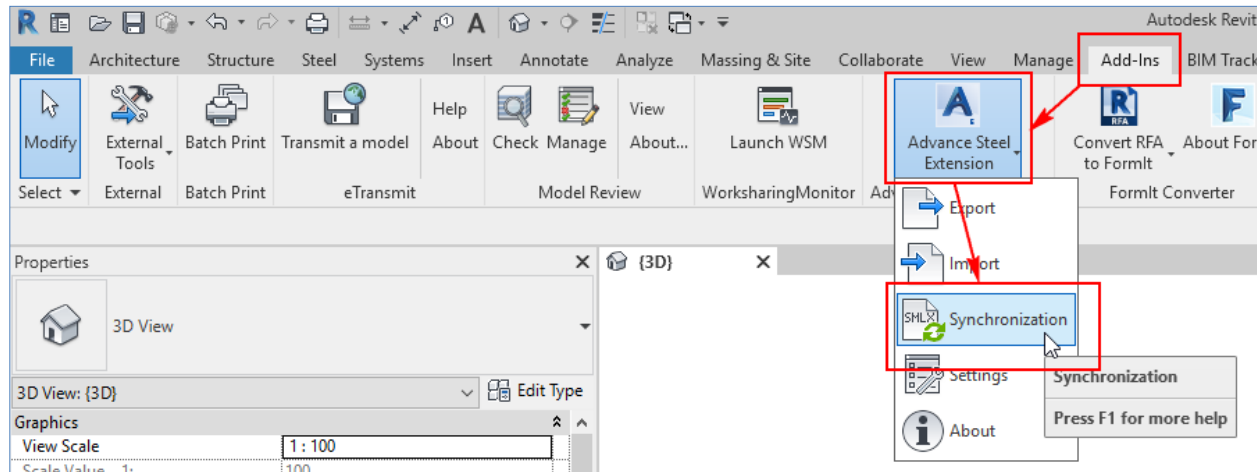

FIGURE 36: INVOKING THE **SYNCHRONIZATION** DIALOG BOX
1. In Autodesk Revit, from the **Add-Ins** ribbon tab > **Advance Steel Extension** ribbon panel, click **Synchronization**, as shown in Figure 36.